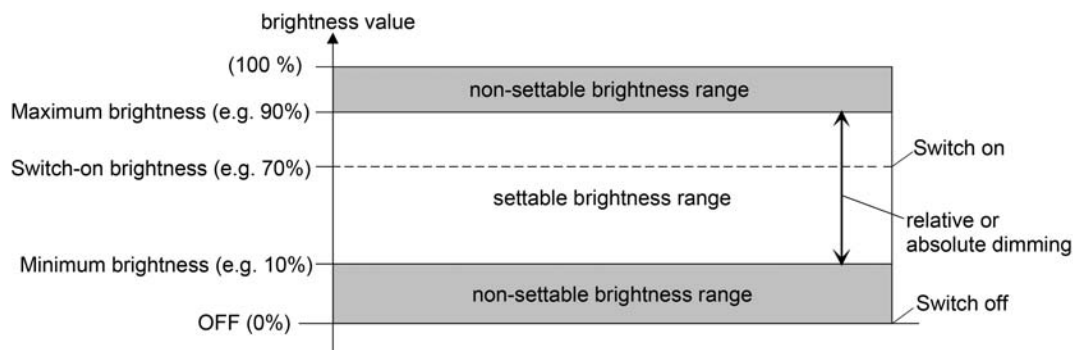

Figure 12: Example of a brightness range with minimum brightness
- Definition of the lower brightness limit with minimum brightness (Figure 12):
- i** In the "speed controller" operating mode for the "1-gang" device variant - similar to the description of the brightness values for lighting control in this chapter - the minimum speed can be configured in the ETS (Figure 12). The alternative configuration of a basic speed is not provided here for technical reasons. The maximum speed cannot be adjusted by means of a parameter either. It is predefined to 100 %. The cutting-in speed is unalterably preselected to a maximum speed (100 %).